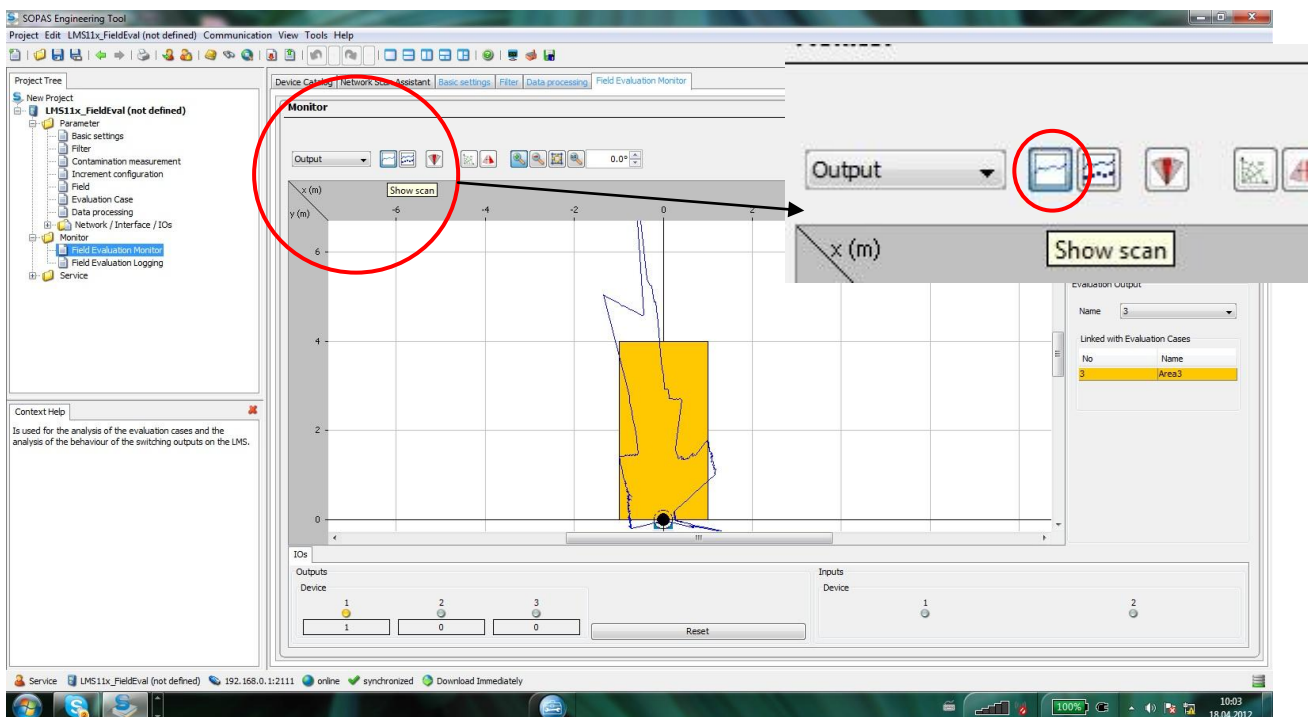

Fig. 9.
**8. Field Evaluation Monitor (clicking on that file) and in order to visualize the scanning just click on "Show scan".Fig.9.**